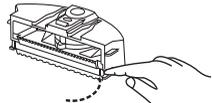

Figure 6
4. Open the bracket and the filter will appear. (Refer to Figure 6)